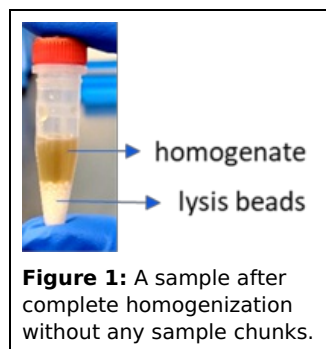

Figure 1: A sample after complete homogenization without any sample chunks.
4. Remove the tubes and visually inspect the samples to confirm complete homogenization (Figure 1). **Note:** If unhomogenized tissue is seen, homogenize for additional 30 seconds.